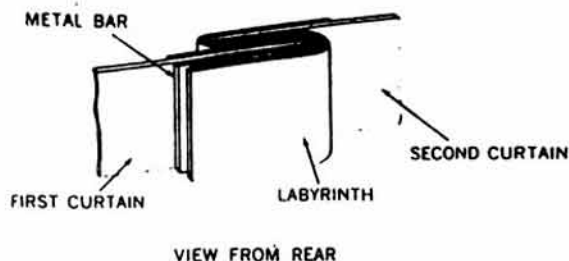

Figure 4-2. Position of Curtain Bar and Labyrinth.
- (6) Wind the shutter about half-way. The crimped edge of the first curtain bar should extend for approximately 0.7mm outside the second curtain labyrinth, when viewed from the rear (fig. 4-2).
- (7) Rotate the second curtain roller with the thumb until a narrow slit is visible between the first and second curtain. The edges of the curtains must be parallel to each other.
- (8) If the edge of the second curtain is not parallel with the first curtain, reglue one of the second curtain ribbons.
- (9) Wind the shutter, set the shutter speed dial to "B", and release the first curtain. Hold the shutter release button in the depressed position.
- (10) Check the position of the second shutter curtain, using gauge 42-253.01-Z1A92. The edge of the curtain should be between 3.05mm and 3.55mm from the edge of the film aperture.
- (11) If the edge of the second curtain is not within the tolerances in (10) above, reposition the curtain. Loosen the two screws of the holding bar, move the curtain, and retighten the screws.
- (12) Release the tension of the second curtain spring roller until the ribbons are slack. Allow 12-hours for the glue to dry before retensioning the spring.
- (13) Retension the second shutter curtain spring roller, and adjust the shutter speeds as described in paragraph 4-8.